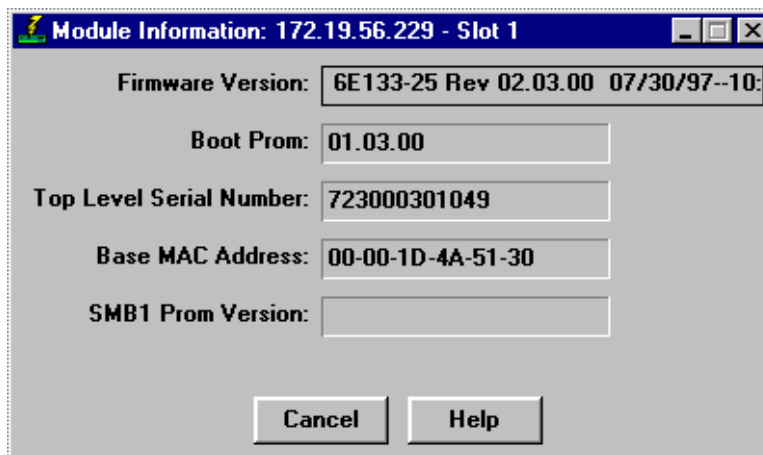

Figure 2-6. The Module Information Window
The Module Information window (Figure 2-6) displays system information, as well as data provided by the PIC chip (Product Information Chip). The PIC chip, which is updated each time a module is redesigned, maintains the manufacturing data for the module and stores certain information such as the MAC addresses of various components. Note that some devices will not return all the data displayed in the Module Information window; these fields will remain blank.
2. Click on **Module Information**. The Module Information window, Figure 2-6, will appear.